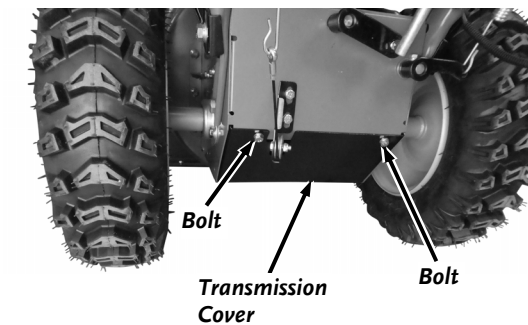

Figure 42
3. Remove the two Bolts that secure the Transmission Cover using a 10mm Wrench and Remove the Transmission Cover (**Figure 42**). This will allow you to guide the Belt off the Auger Pulley from underneath.